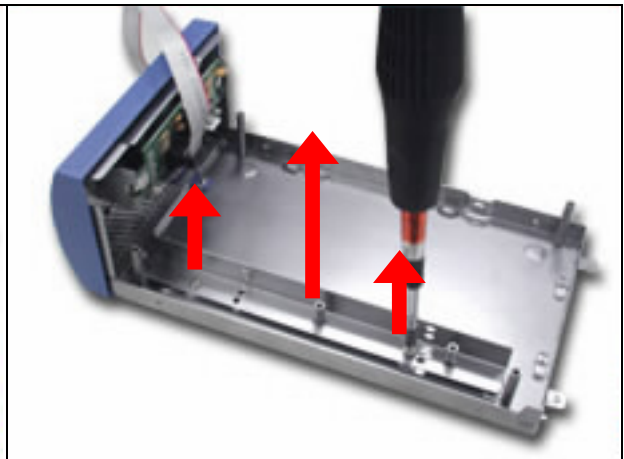

Fig. 2-25 Remove HDD bracket
3. Remove the HDD bracket. Users should remove screws of the indicated position (*Fig. 2-25*).